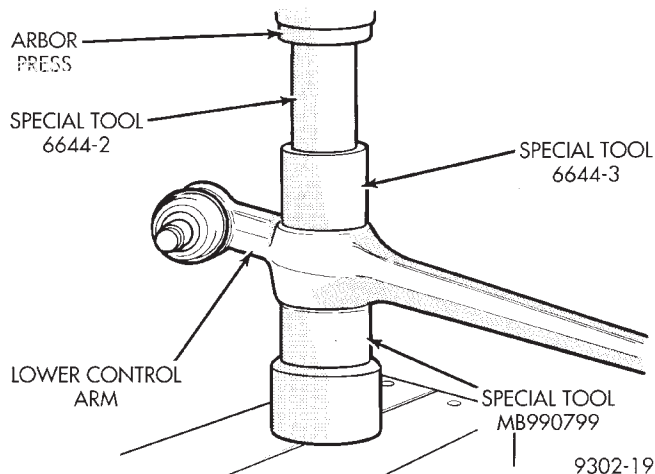

Fig. 85 Installing Tension Strut Bushing Into Lower Control Arm
(1) Thoroughly lubricate the replacement tension strut bushing, lower control arm and Installer, Special Tool 6644-3 using Mopar® Silicone Spray Lube or an equivalent.
(2) By hand, install tension strut bushing into large end of Installer, Special Tool 6644-3. Press bushing into installer as far as it will go by hand.
(3) Position lower control arm in arbor press, so tension strut hole in lower control arm is centered on Receiver, Special Tool MB-990799 (Fig. 85). Position Installer, Special Tool 6644-3 with previously installed bushing, inside of tension strut bushing hole in lower control arm (Fig. 85). Position Installer, Special Tool 6644-2 on top of tension strut bushing (Fig. 85). Using the arbor press, press the tension strut bushing into the lower control arm. As the bushing is being pressed into the control arm a pop will be heard. When the pop is heard Installer, Special Tool 6644-3 will slightly move up off the control arm. At this time remove the control arm assembly